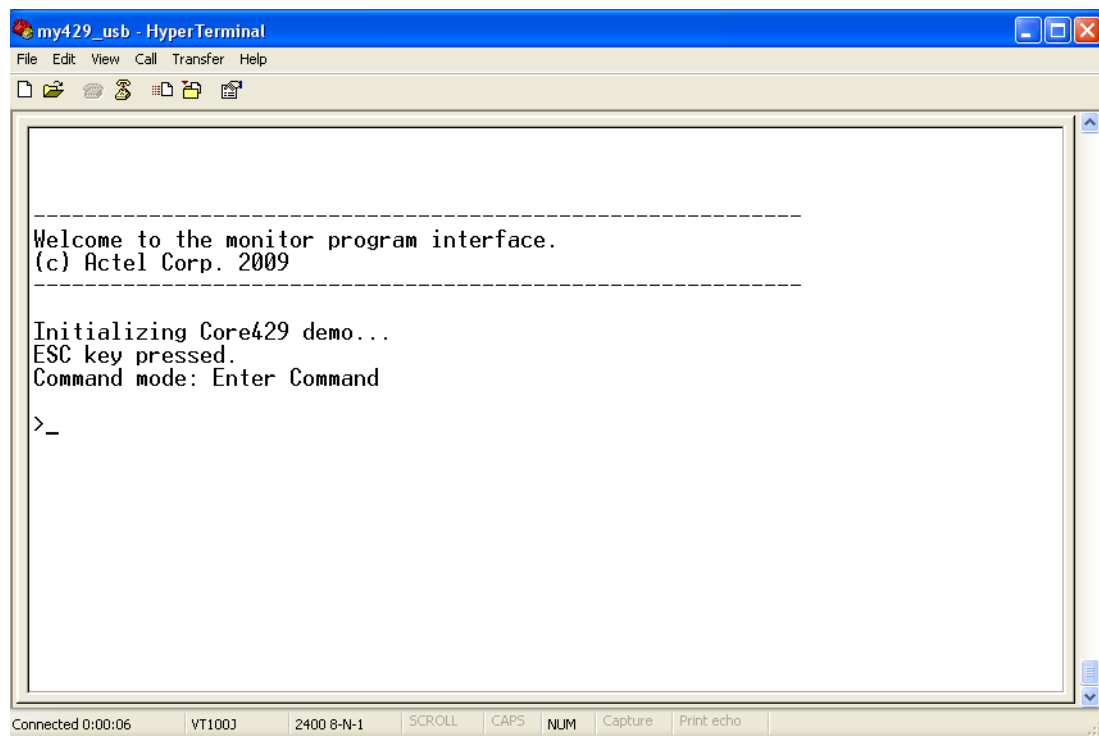

Figure 2-9 • HyperTerminal Window
10. Core8051 will start running and the demo design will display a message. Press **Esc** to enter the command prompt on HyperTerminal (Figure 2-9).